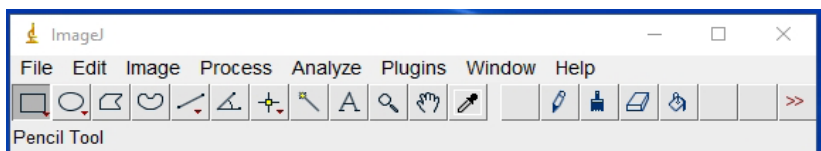

Fig. 28–On the ImageJ window, the Straight Line option of the Angle Tool is selected.
4. Count the grating lines that the ImageJ line crosses. The grating has a spacing of 500 grating lines/mm. So, the grating lines have a $2\mu\text{m}$ spacing. In Fig. 28, we see 11 grating lines. For accurate calibration there should be at least 10 grating lines. For more information, press **Help** on the **Set Scale** window (Fig. 29).